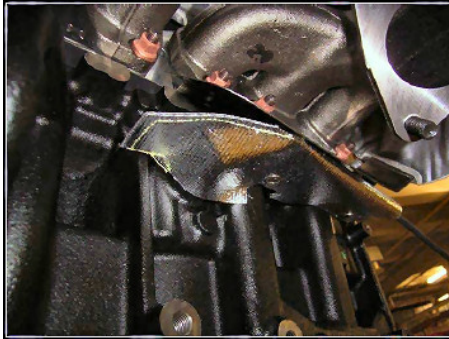

Figure 3
- Install extra heat insulation Part No. 03H 971 461 as shown in Figure 3.